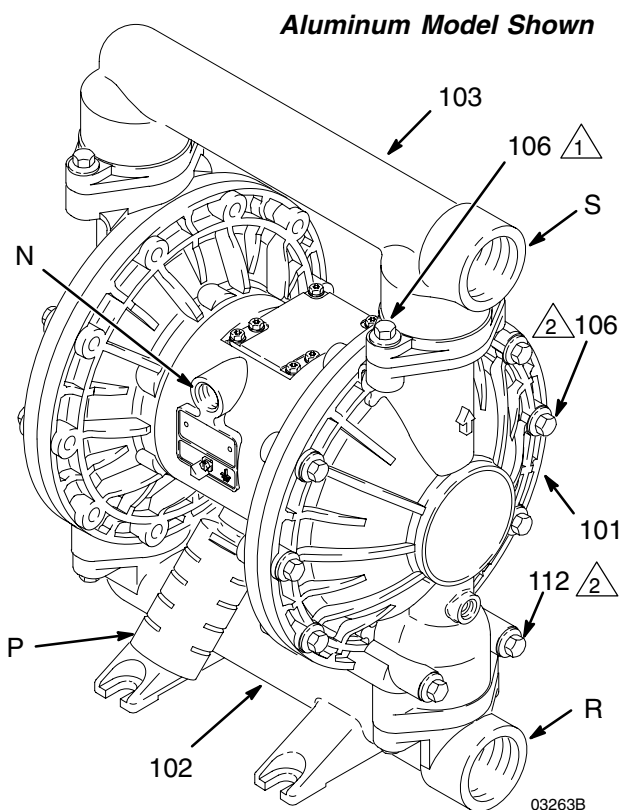

Fig. 3
4. Lift the pump by grasping the outlet manifold (1) securely. See Fig. 3 on page 7.
- a. Install an air regulator (C) and gauge to control the fluid pressure. The fluid outlet pressure will be the same as the setting of the air regulator.
- b. Locate one bleed-type master air valve (B) close to the pump and use it to relieve trapped air. See the **Warning** above. Locate the other master air valve (E) upstream from all air line accessories and use it to isolate them during cleaning and repair.
- c. The air line filter (F) removes harmful dirt and moisture from the compressed air supply.
2. Install a grounded, flexible air hose (A) between the accessories and the 1/2 npt(f) pump air inlet (N). See Fig. 3. Use a minimum 13 mm ID air hose. Screw an air line quick disconnect coupler (D) onto the end of the air hose (A), and screw the mating fitting into the pump air inlet snugly. Do not connect the coupler (D) to the fitting until you are ready to operate the pump.
The pump is shipped with the fluid inlet (R) and outlet (S) ports facing the same direction. See Fig. 3. To change the orientation of the inlet and/or outlet port:
1. Remove the screws (106) holding the inlet (102) and/or outlet (103) manifold to the covers (101).